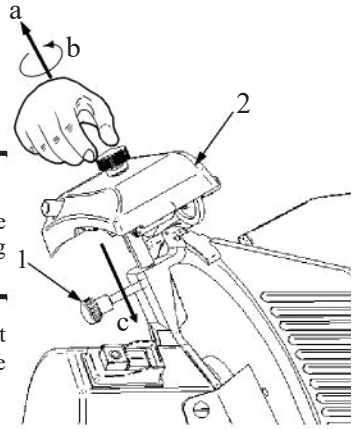
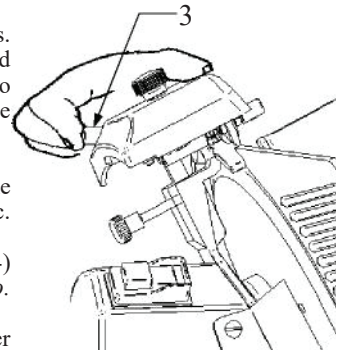

FIG. no. 9a
FIG. no. 9b
3. Unscrew the knob (1) until the sharpener (2) loosens. Lift (a) the sharpener (2) up to the locking position and rotate it 180° (b) (see FIG. no. 9a). Then let it move to the end (c) so that the blade is positioned between the two grinding stones. Lock the knob;
4. Switch-on the slicer by pushing the button “I” (ON);
5. Push the small button (3) (see FIG. no. 9b), let the blade rotate against the grinding stone for 30 to 40 sec. to produce burr on the blade edge;